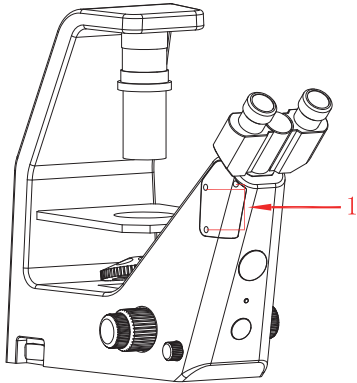

Figure 1
(1) Remove the microscope Ts2 baffle, as shown in Figure 1: